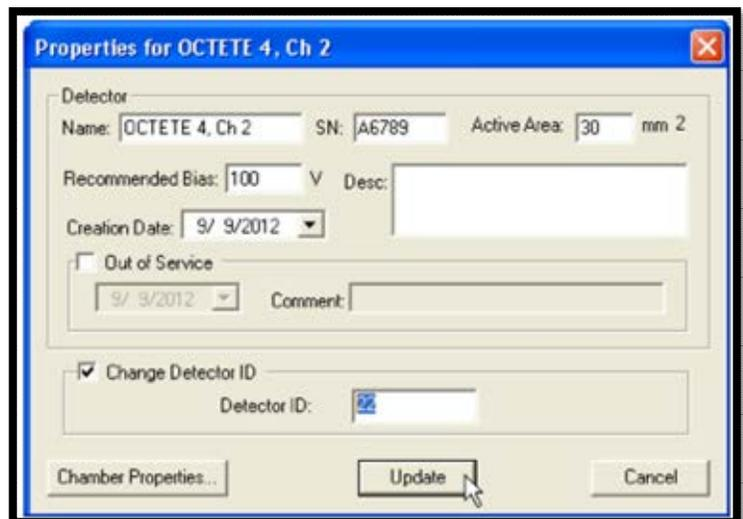

Figure 30. Change the Detector ID Number
- After the Configure process, if it is determined one or more detectors on the Master Detector List do not have useful/intuitive detector ID numbers (for instance, one or more MCBs have been moved), the ID numbers in the Detector Properties dialog can be changed, as described in the next section (see the text accompanying Figure 30, page 45).
- 2) Mark the **Change Detector ID** checkbox, enter a unique **Detector ID**, and click **Update** (Figure 30).
Detector Properties...	This dialog allows the user to define or view the identifying information for a particular detector, make detailed adjustments to the alpha chamber settings, and change the detector's ID number on the Master Detector List (Figure 30).